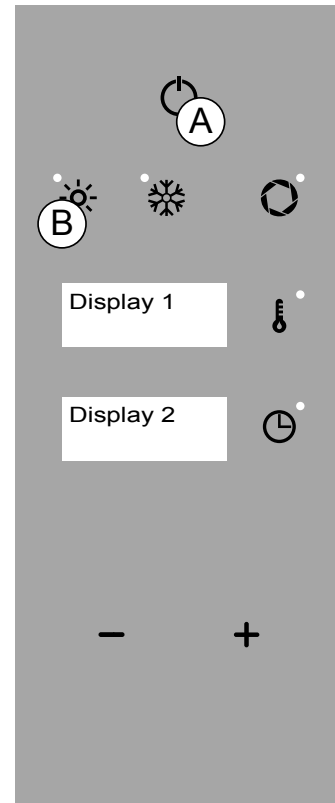

Fig.1
- "OFF" mode: clock display (Fig. 1 Display 2).
- "STAND BY" mode: oven name and clock display (Fig. 1 Displays 1 and 2).
- "MAIN MENU" mode: "CONVECTION" function active (Fig.1/B), temperature 180°C (Fig.1 Display 1) and time 0:00 (Fig.1 Display 2).
In "function selection" or "parameter selection" mode, after 5 seconds of inactivity the oven memorizes the function or value displayed (Fig.1 Display 1-2).
At the end of the set time, the word "END" flashes on the screen (Fig. 1 Display 1-2). Press the "ON/OFF" button (Fig 1/A) twice to return to "STAND BY mode.